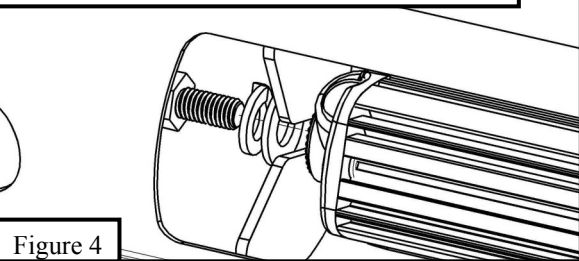

Figure 4
5. **For part number 32-2255L:** Refer to **Page 3** for wiring instructions. Loosen M8 hardware to adjust the LED light in bull bar or to remove it in order to replace it. See **Figure 4** for location of M8 hardware.